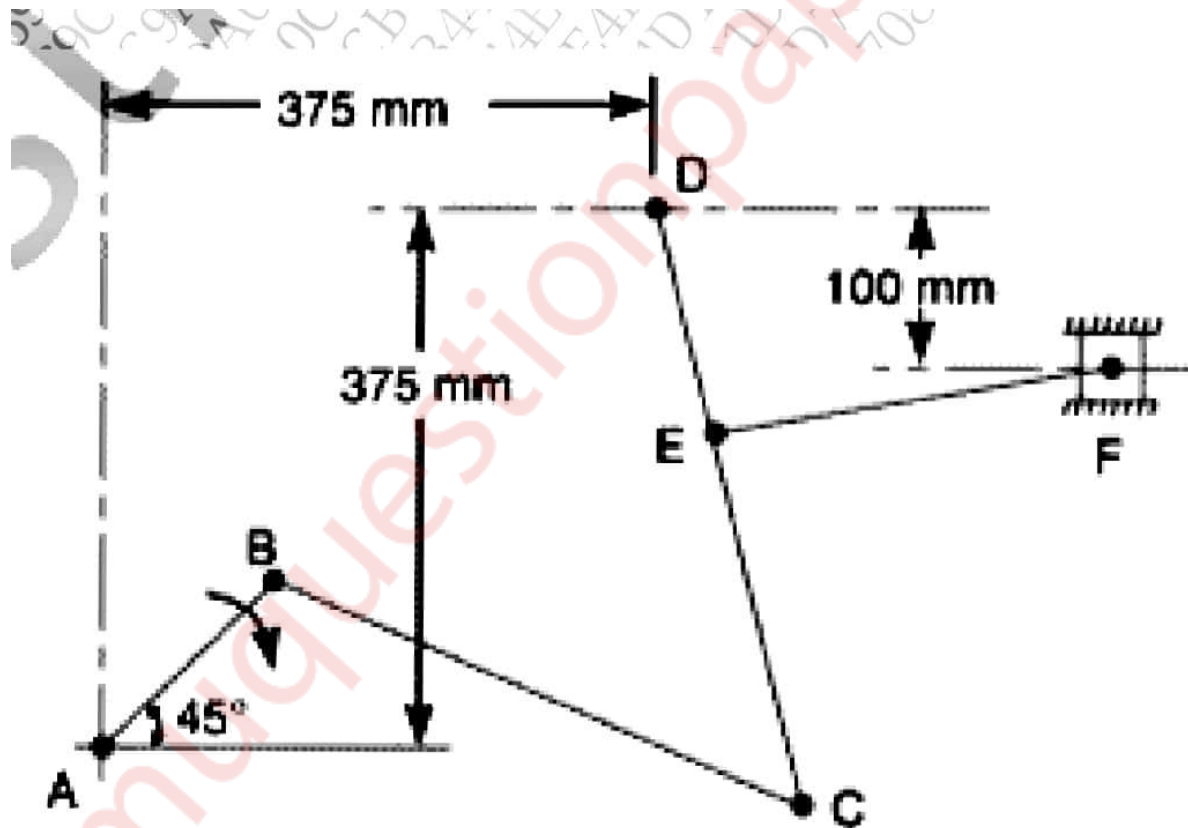

Figure 1
Q 2) A) The mechanism, as shown in Fig.1, has the dimensions of various links as follows :  $AB = DE = 150 \text{ mm}$  ;  $BC = CD = 450 \text{ mm}$  ;  $EF = 375 \text{ mm}$ . The crank AB makes an angle of  $45^\circ$  with the horizontal and rotates about A in the clockwise direction at a uniform speed of 120 r.p.m. The lever DC oscillates about the fixed point D, which is connected to AB by the coupler BC. The block F moves in the horizontal guides, being driven by the link EF. Determine velocity of the block F and angular velocity of DC (14)